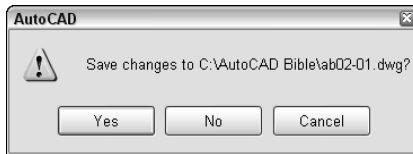

Figure 2-5: If you try to exit AutoCAD without saving the changes you made to a drawing, AutoCAD gives you a chance to save the changes.
5. Because you haven't saved the changes to the drawing, AutoCAD asks if you want to save them, as shown in Figure 2-5.